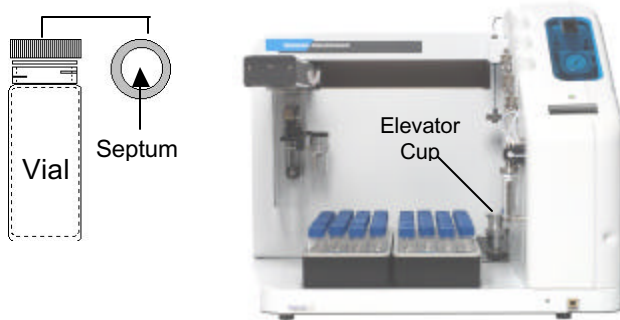

Figure 2-7: Sample Cup
3. Place a clean empty vial (with a clean septum) into the SOLATek 72 Sample Cup (Figure 2-7). Press [Next] to continue.